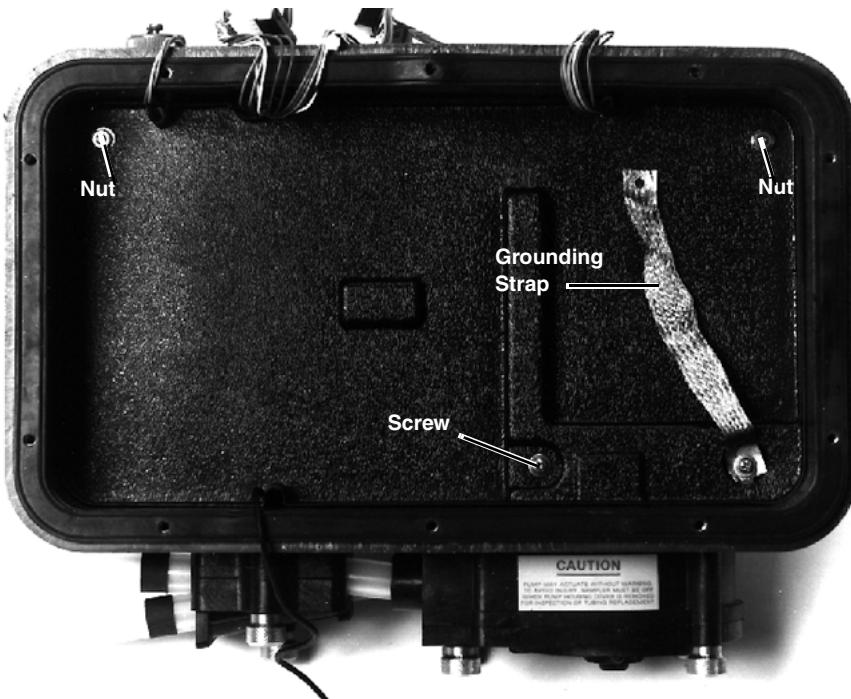

Figure 6-10 Control Box Tray Removal
1. Remove the two nuts, the screw, and the grounding strap indicated in Figure 6-10.